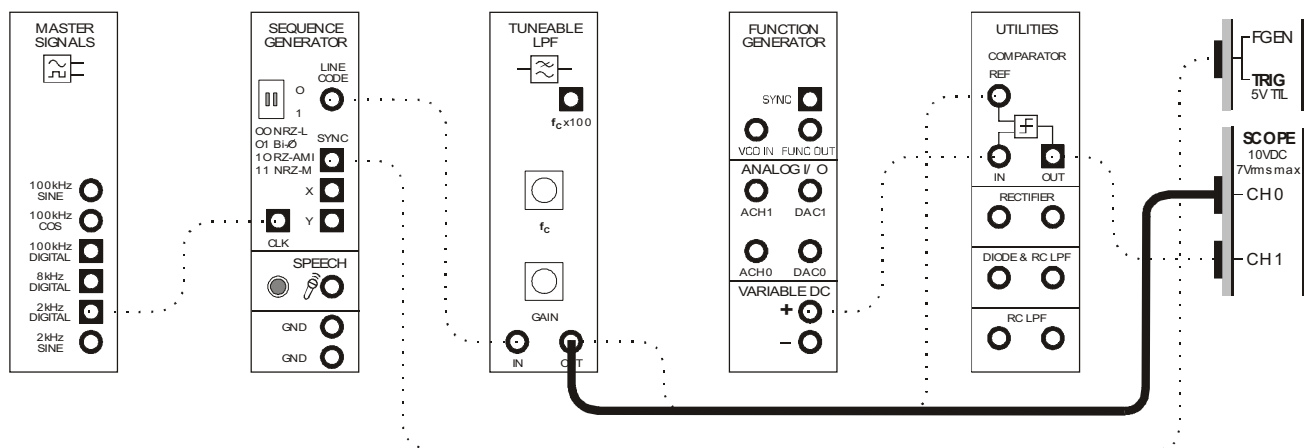

Figure 13
57. Compare the restored digital signal with the bandwidth limited digital signal by modifying the set-up as shown in Figure 13 below.